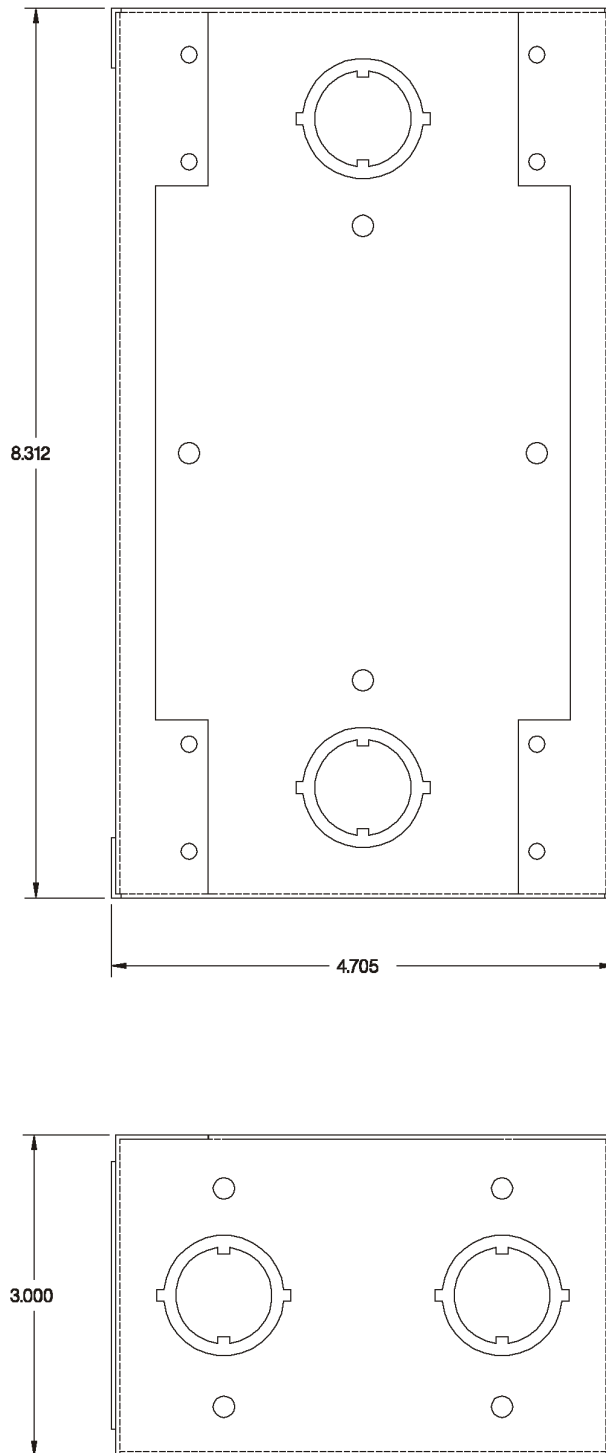

Figure 7 - 500SBB Surface Mount Back Box with Cover
- Model 500SBB . . . . . See figure 7